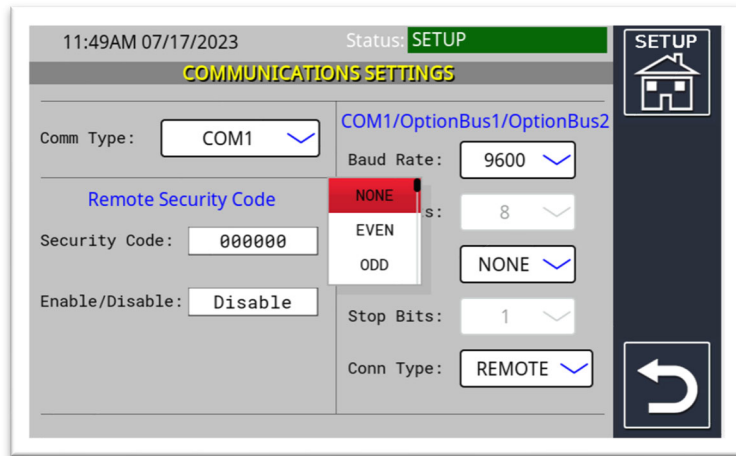

Figure 14.4
- f) **Parity:** Selections available from the dropdown (▼) menu are NONE, ODD, and EVEN. (See Figure 14.4)